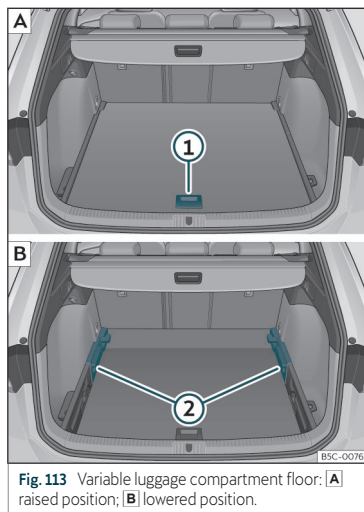

Fig. 113 Variable luggage compartment floor: **A** raised position; **B** lowered position.
- To move from the low position to the high position, lift the floor using the handle »» **Fig. 113 ①**, and pull it back until the front of the floor has fully passed the supports »» **Fig. 113 ②**.
- Move the floor forward over the supports as far as the rear seat backrest and then lower the floor with the handle **①**.
- To move from the high position to the low position, lift the floor using the handle »» **Fig. 113 ①**, and pull it back until the front of the floor has fully passed the supports »» **Fig. 113 ②**.
- Now let the front part fall to the floor and slide the floor forwards as far as the rear seat backrest; lower the floor at the same time with the handle **①**.
- Lift the variable floor in the high position using handle »» **Fig. 113 ①**, pull it up and push it towards the backrest of the rear seats until it folds along the hinge line and the movable part of the floor is resting on itself.